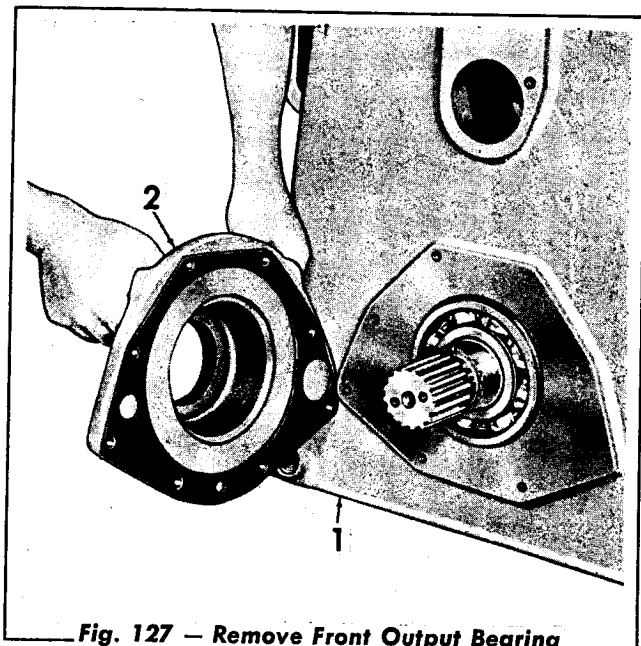

Fig. 127 — Remove Front Output Bearing Retainer Assembly
10. Position the transfer gear housing assembly (Fig. 127) upright on the work table and remove the front output bearing retainer assembly and gasket.